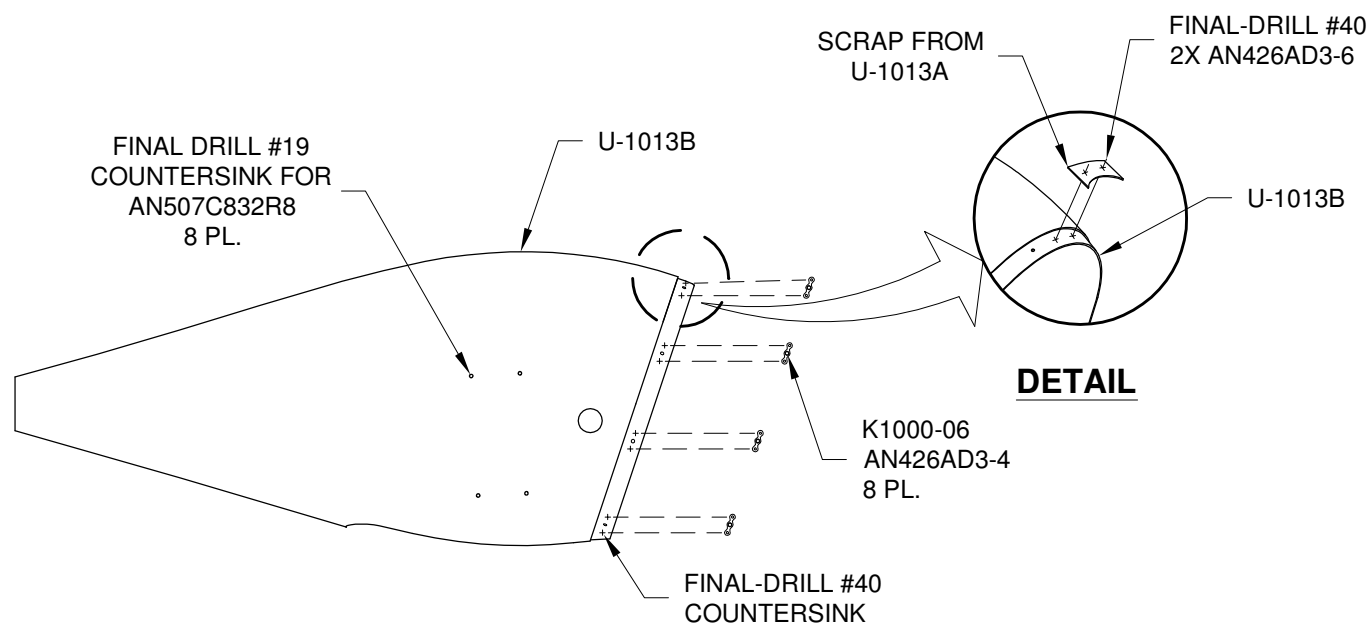

FIGURE 2: RIVETING NUTPLATES TO THE WHEEL FAIRING REAR
Step 2: Cut to fit the piece of fiberglass scrap created earlier to serve as a filler and position it on the wheel fairing rear directly behind the WD-1017 Nose Gear Leg. Final-Drill as shown in Figure 2, countersink and rivet it to the wheel fairing rear as shown in the Detail.
Step 4: Slide the U-1013B Wheel Fairing Rear onto the axle at the gap in the washer stack-up. Bolt it to the WD-1030 Nose Fork at the U-1013C-L/R Nose Wheel - Fairing Brackets as shown in Figure 4 using the hardware called out on Page 48-17 Figure 2. Attach the U-1013A Wheel Fairing Front to the wheel fairing rear as shown.